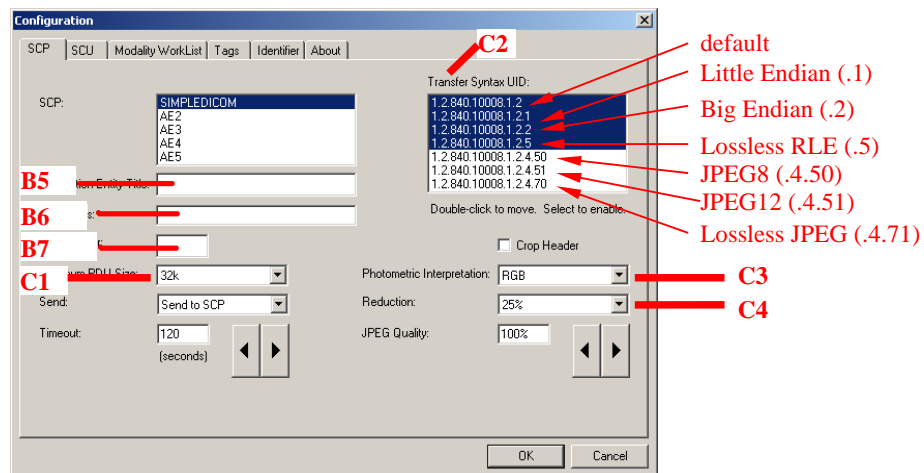

Figure 25
- 2.2.2. On the SCP page, enter the information from the DICOM worksheet in Sections B5, B6, B7, C1, C2, C3 and C4 as shown in Figure 25.